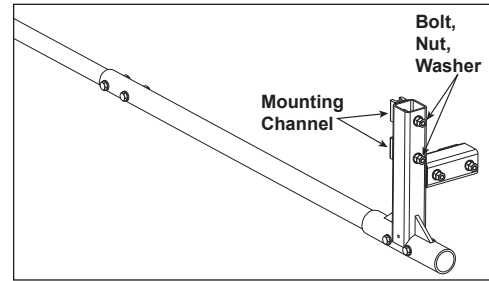

Figure 23: 10-15' Fixed Webcam Arm Mounting
3. Slide two of the mounting channels and bolts into the horizontal mounting channel on the display back. Refer to **Figure 23**.